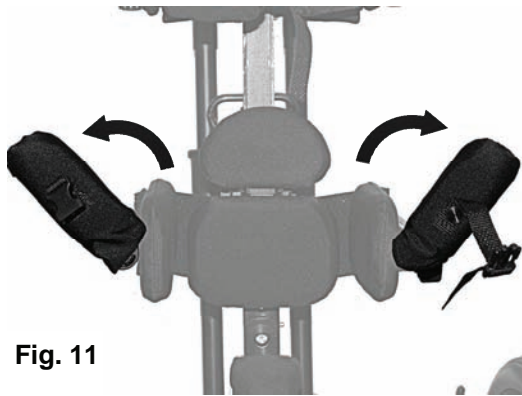

Fig. 11
- Flip the front hip support pads upward and outward (fig. 11). If your *KidWalk* is equipped with upper Lateral Support Pads, flip them upward and outward as well.